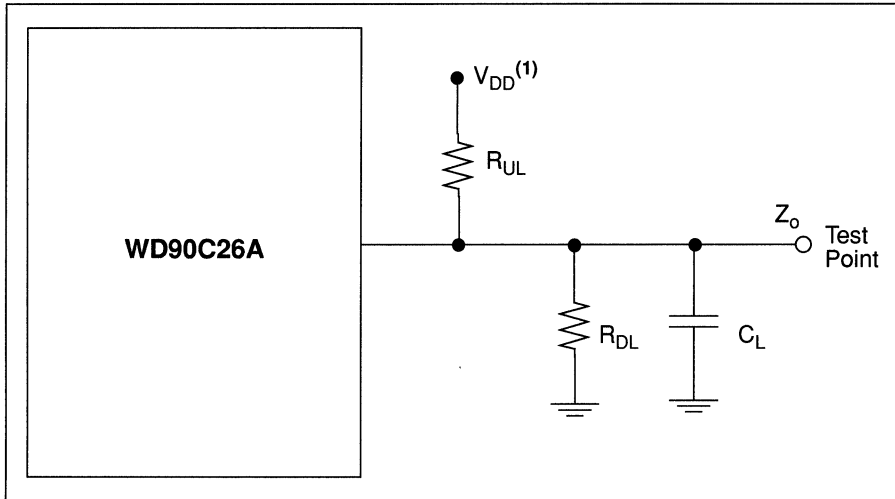

FIGURE 11-14 SETUP FOR TIMING PARAMETER MEASUREMENTS
2. VDD = The supply voltage for the particular output signal. Figure 11-14 shows the setup for timing parameter measurements.